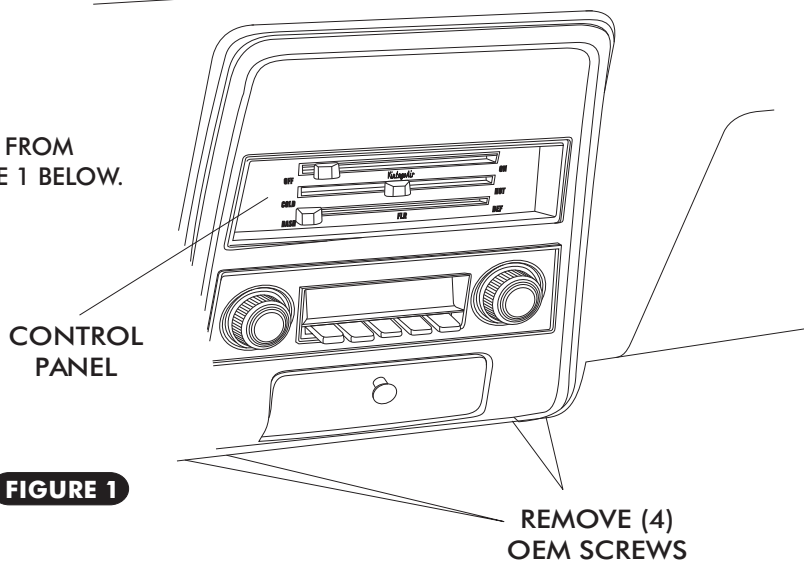

FIGURE 1
- REMOVE THE (4) OEM MOUNTING SCREWS FROM DASH BEZEL, UNDER THE DASH. SEE FIGURE 1 BELOW.